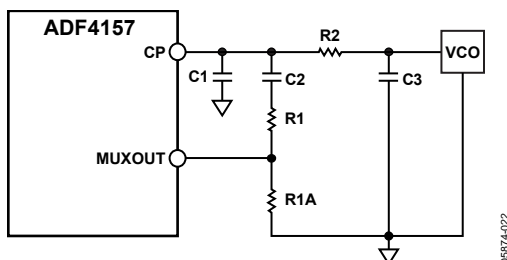

Figure 22. Fast lock Loop Filter Topology—Topology 1
- Divide the damping resistor (R1) into two values (R1 and R1A) that have a ratio of 1:3 (see Figure 22).